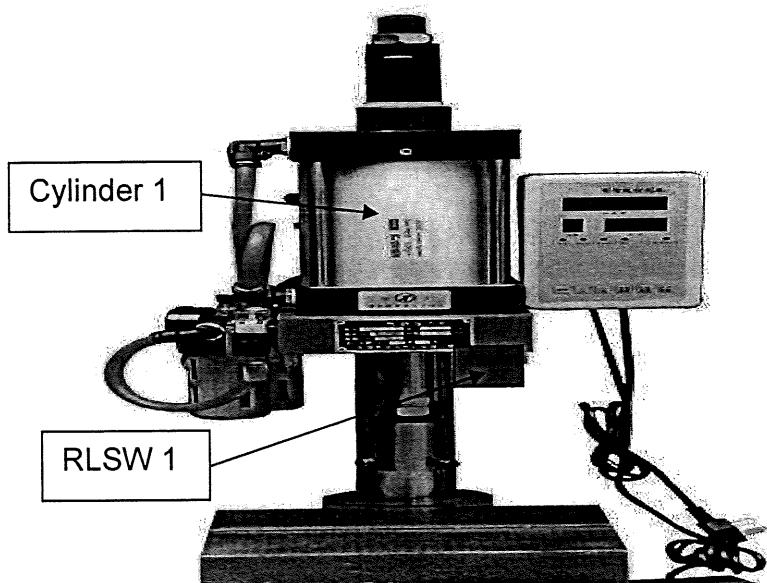

Figure 3
- b) Figure 3 shows, the piston rod of a double acting cylinder 1 is to extend, when three of normally open pushbuttons (**PB1 AND PB2 AND PB3**) are actuated and will only retract when the fully extend position of a double acting cylinder is reached, which detected by a normally open Roller Limit switch (**RLSW1**) **AND**, after **20 seconds** extension of fully extension of cylinder.